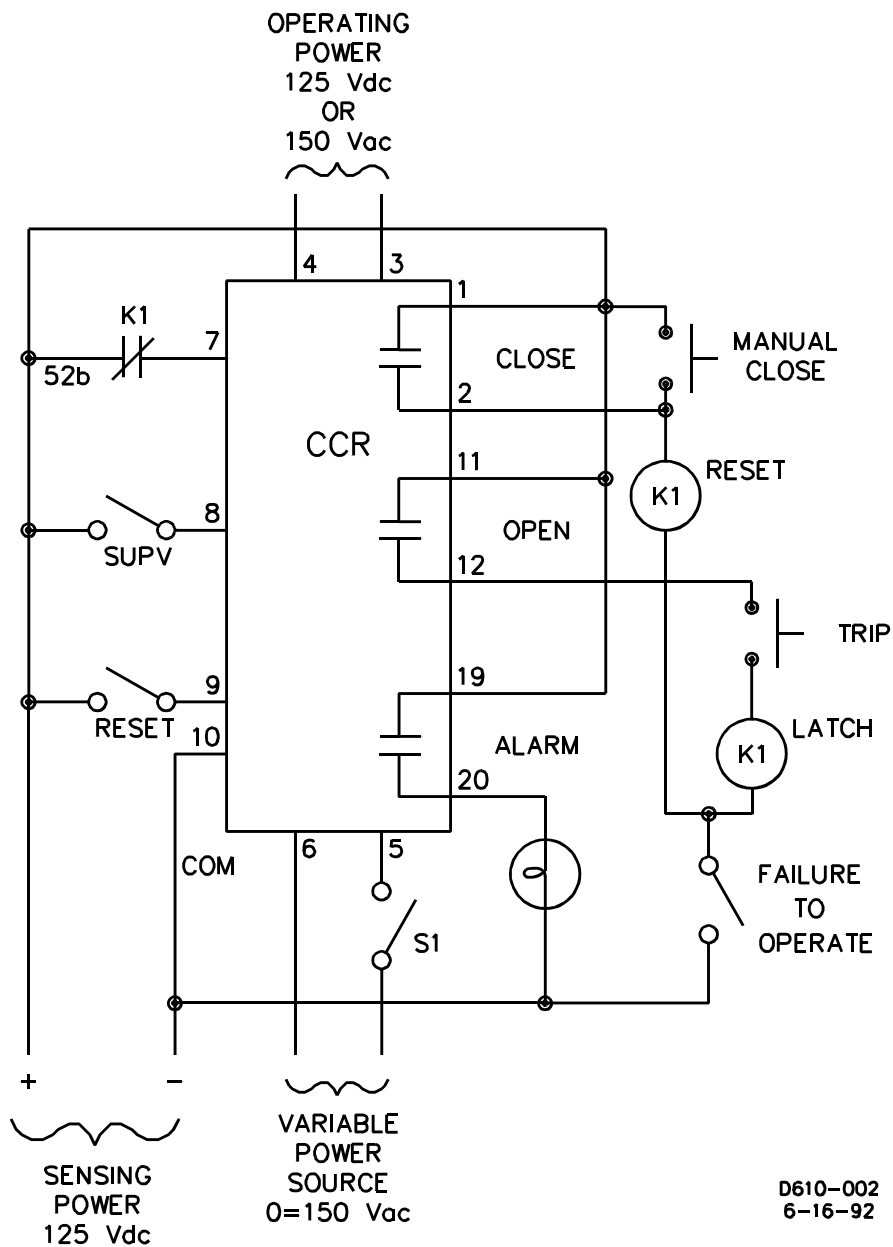

Figure 3-1. Calibration Test Circuit
STEP 1. Connect variable power source, latching relay, and switches as shown in Figure 3-1.